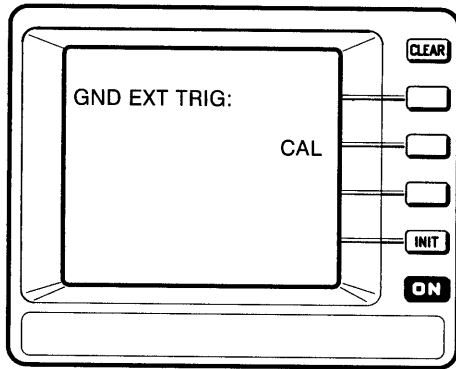

Figure 3-5: The Ground External Trigger Calibration Menu
- Step 7:** Invoke the menu again, and press the menu button next to **EXT TRIG**. A new menu appears on the display, as shown in Figure 3-5.